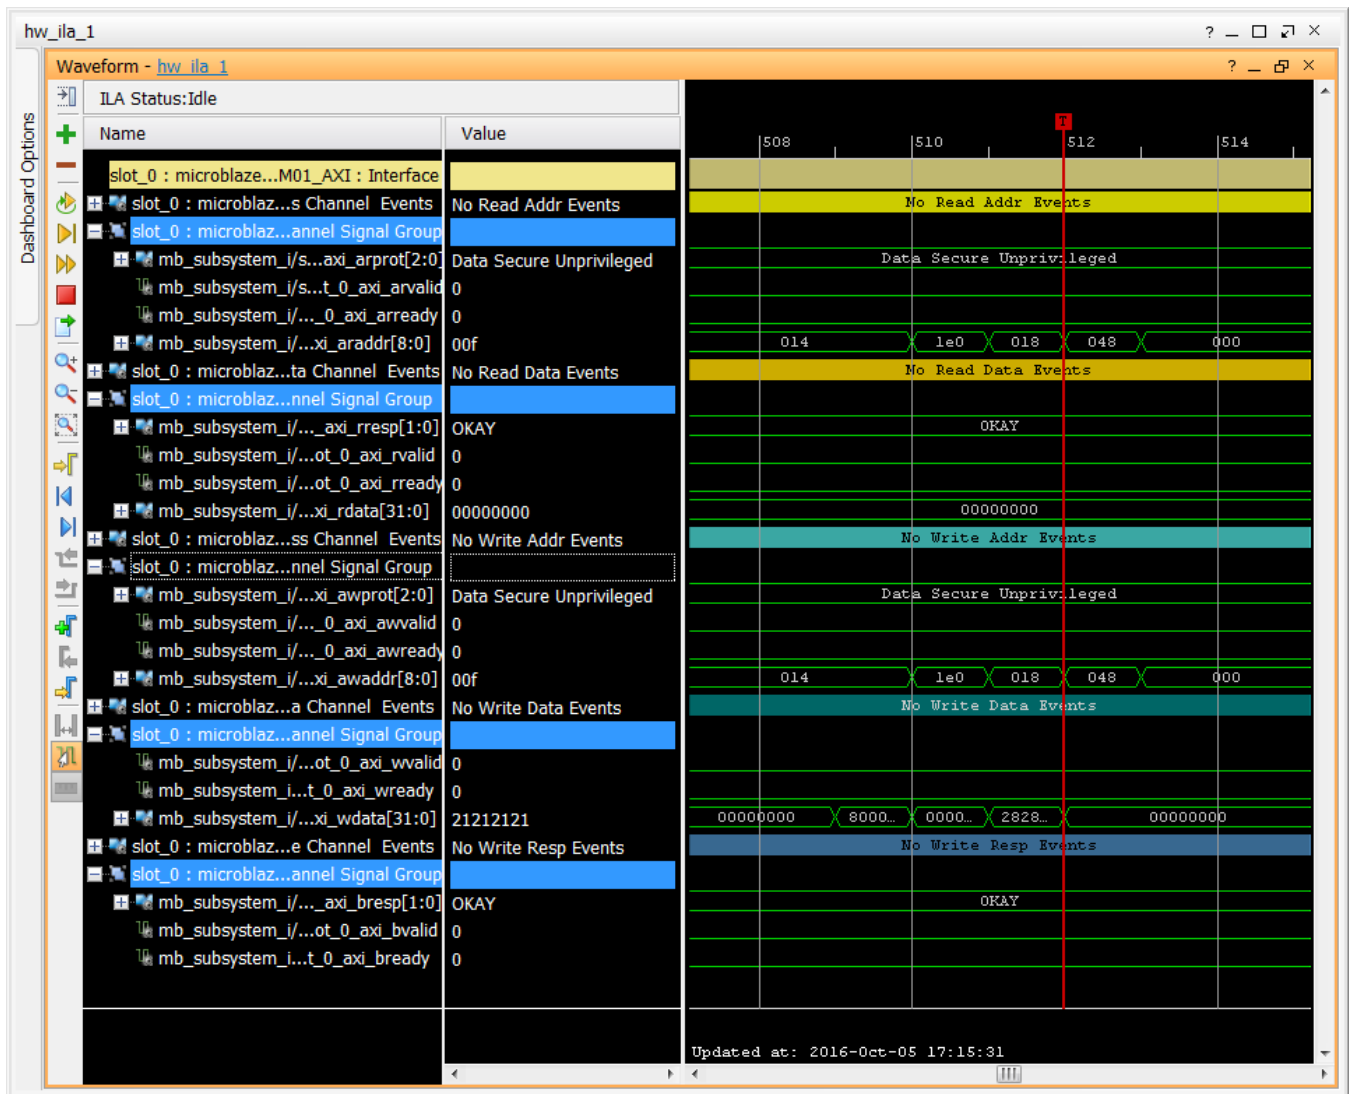

Figure 132: MicroBlaze to Logic Cross Trigger Waveform in hw_ila_1
- In SDK, in the Debug window, click the **MicroBlaze #0** in the Debug window and click the **Resume** button . The code will execute until the breakpoint set on Line 50 in testperiph.c file is reached. As the breakpoint is reached, this triggers the ILA as seen in Figure 132.